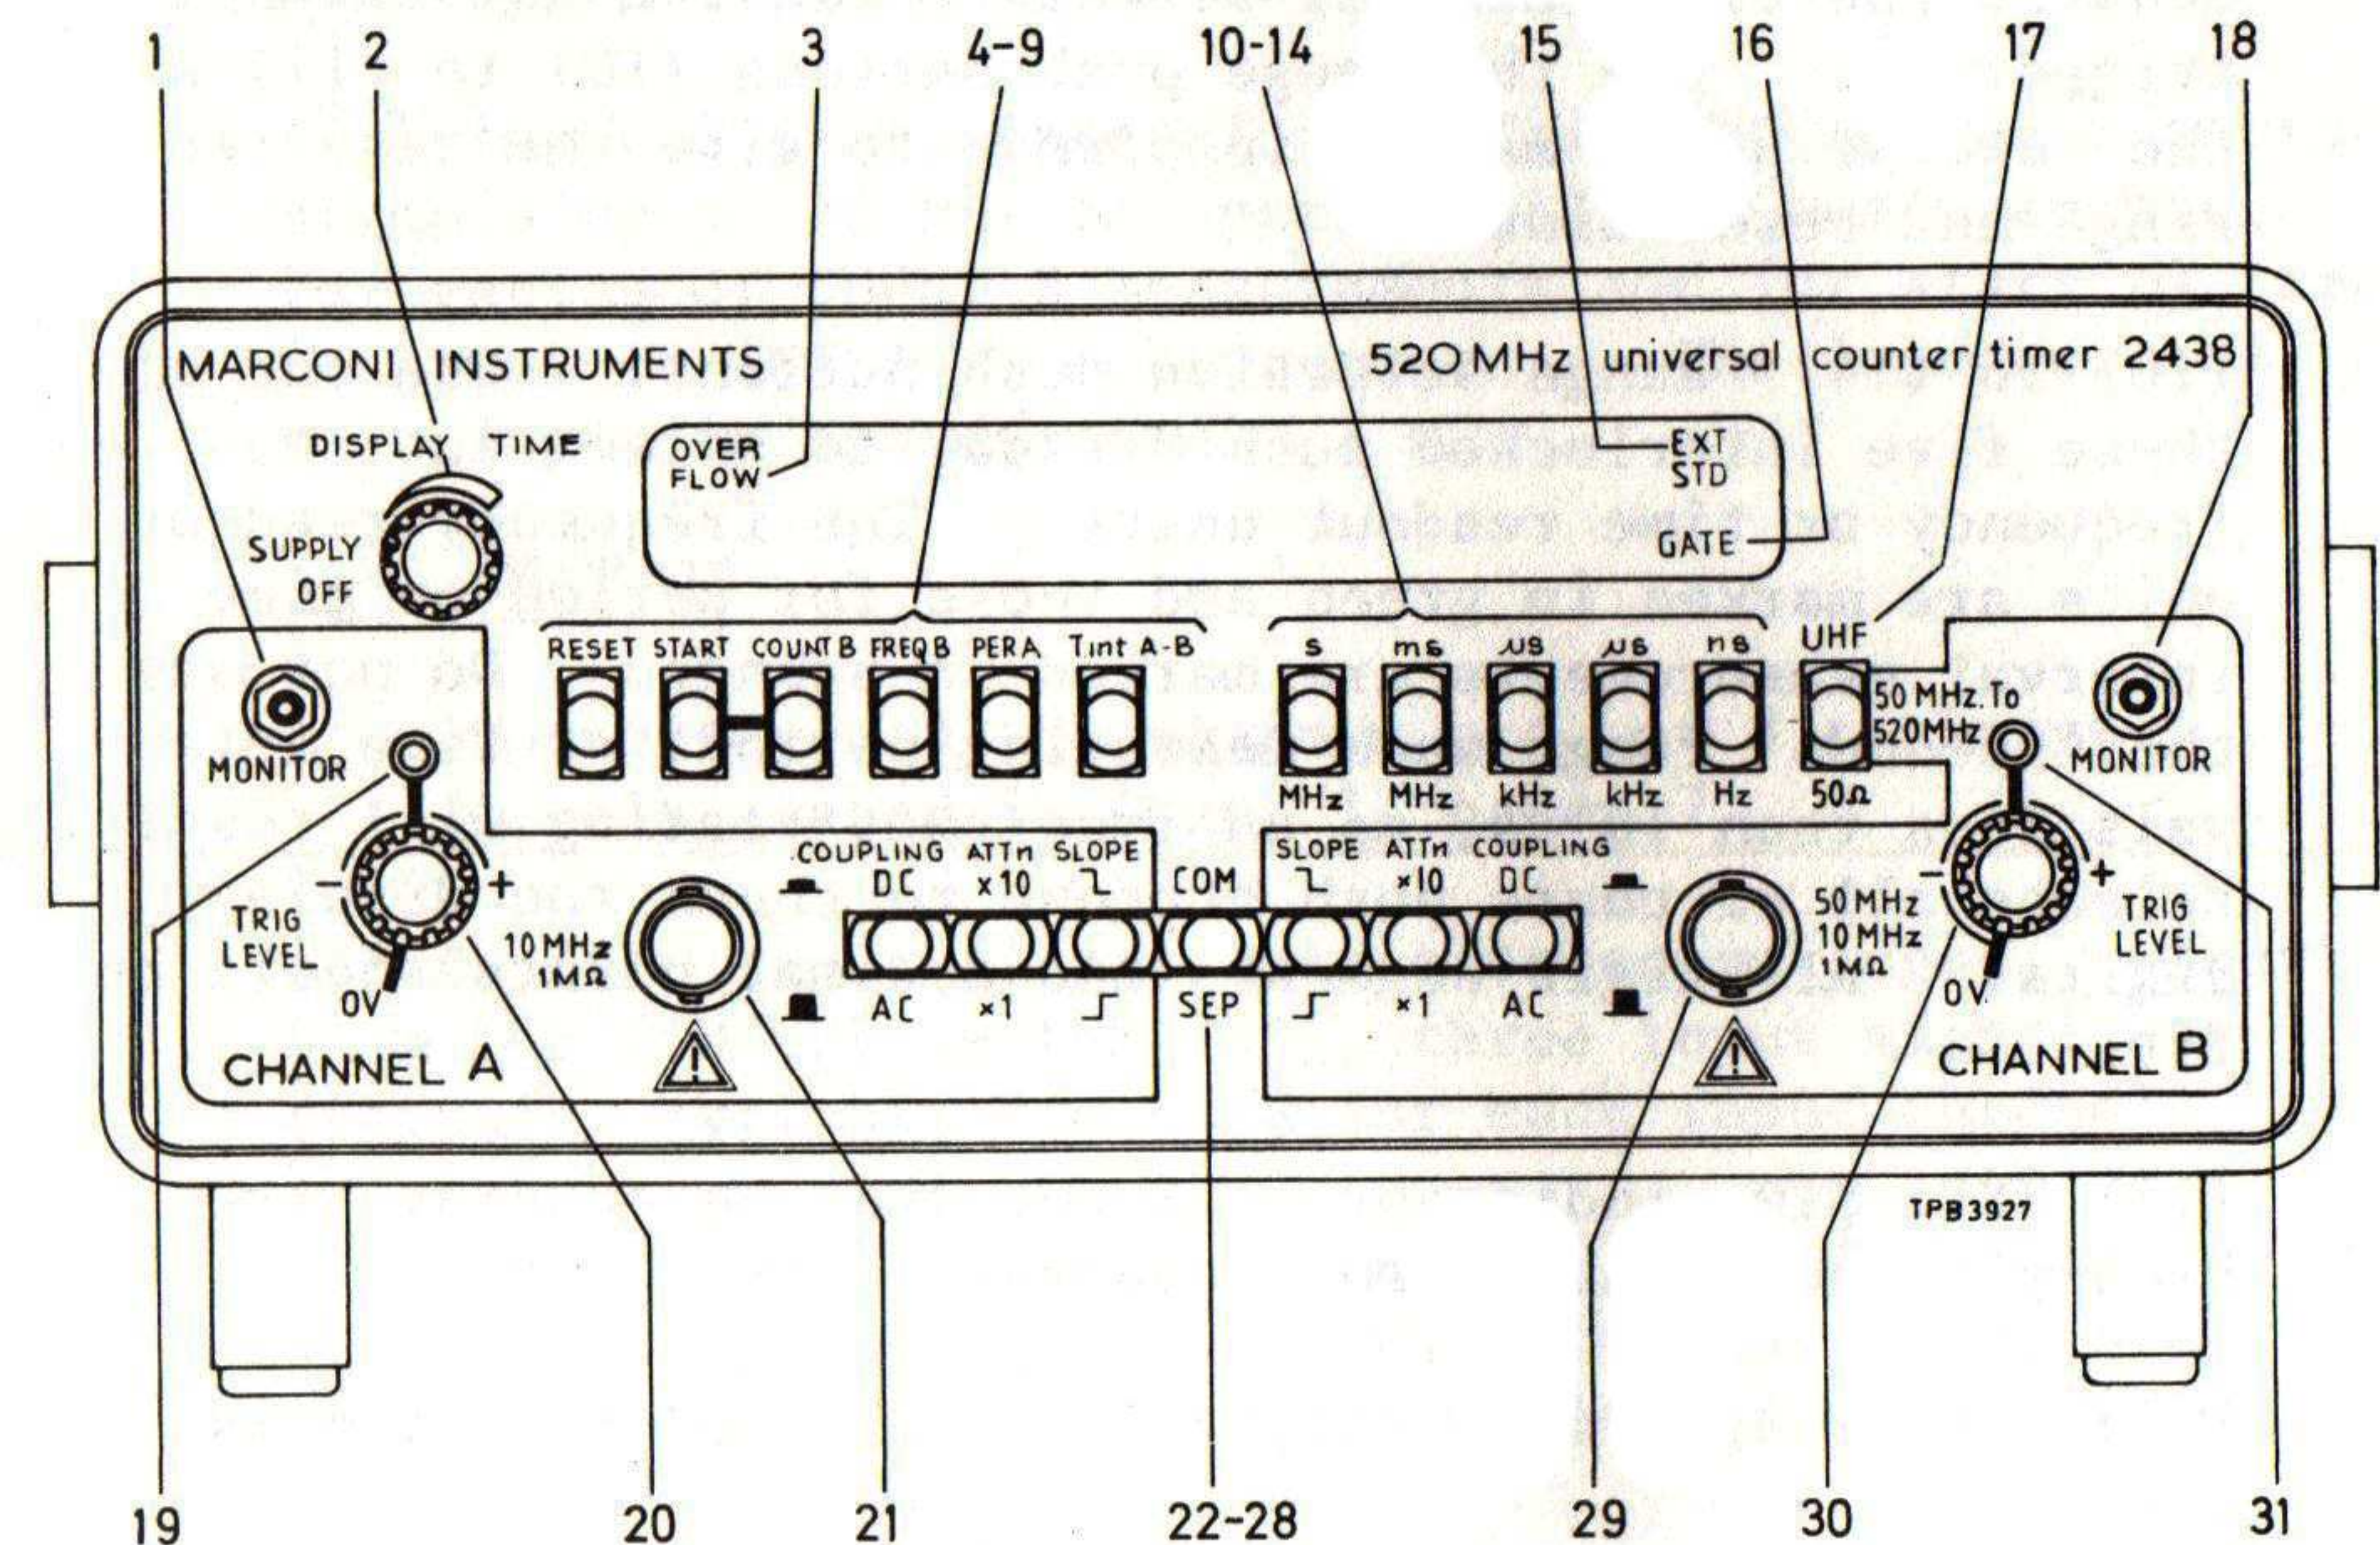

Fig. 1 Front panel
1. Refer to Fig. 1 for front panel details.